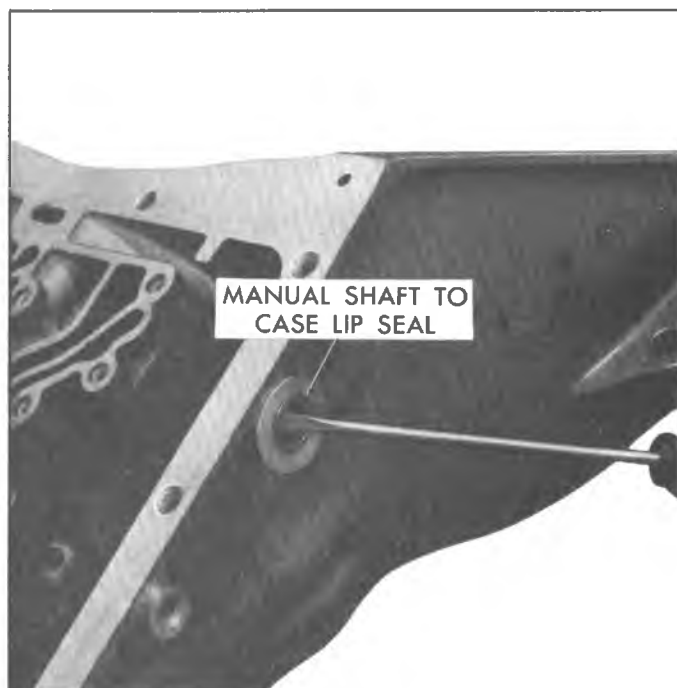

Fig. 21N--Removing Manual Shaft to Case Lip Seal
13. Remove manual shaft to case lip seal (fig. 21N), if replacement is required.